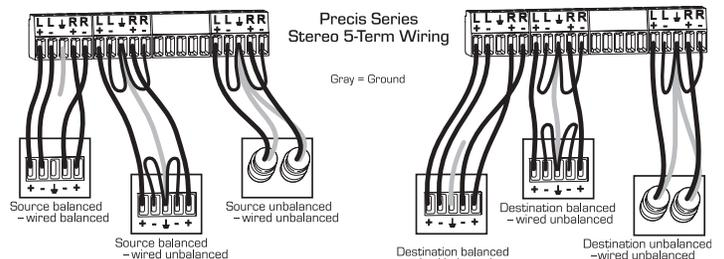

FIG. 4 Options for source-to-Precis-to-destination 5-Term wiring
**Note:** When using shielded twisted-pair wire, connect the shield (ground) at one end only (recommend receiving end) to minimize low frequency noise (see FIG. 4).
Source and destination devices require either balanced or unbalanced connections. More than one of the options shown in FIG. 4 can be used in the same system.